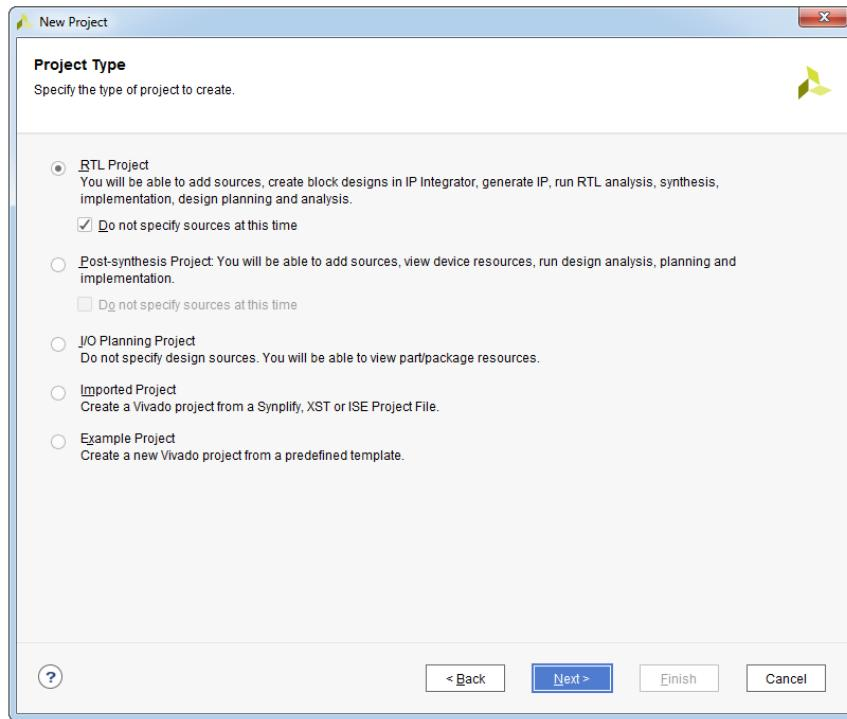

Figure 2.5: Project Type dialog box
6. In the **Project Type** dialog box specify the type of project you want to create. In our case we will choose **RTL Project** option. Select **Do not specify sources at this time** also, see Figure 2.5.